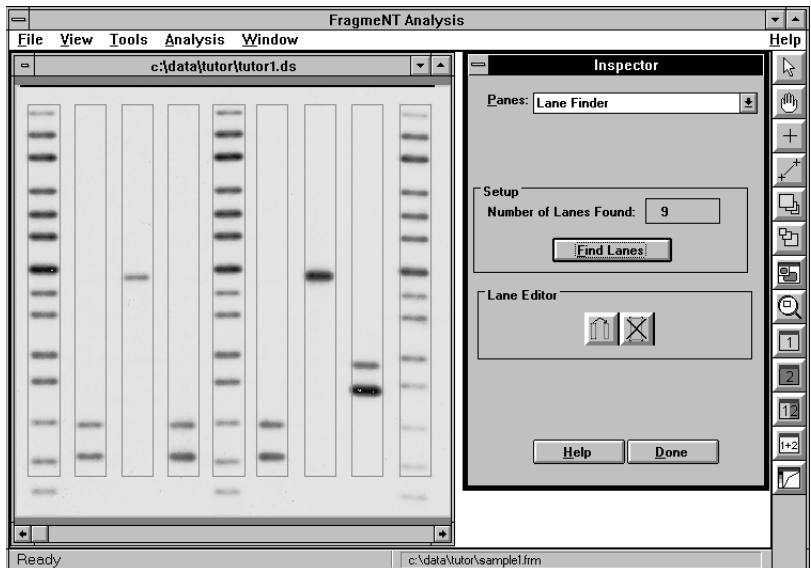

Figure 3-8. Finding lanes.
To initiate lane finding, click **Find Lanes**. Fragment Analysis encloses the found lanes with rectangles and displays the number of lanes it found (figure 3-8). (The software finds the number of lanes you specified in the Experiment Form or Image Setup inspector.)
2. Click **Find Lanes**. The lanes are marked with rectangles and the number of found lanes is displayed (figure 3-8).